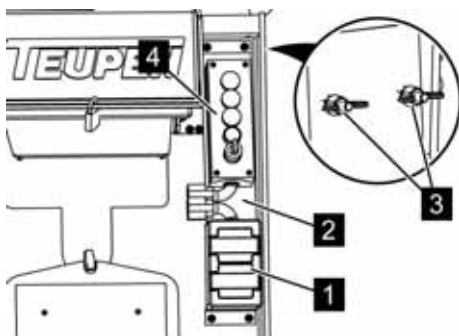

Fig. 82: Retaining plate
2. ➤ Unscrew the retaining plate (Fig. 82/2) with the toolbar (Fig. 82/4) and outlets (Fig. 82/1). To do this, loosen the wing nuts (Fig. 82/3) on the back side above and below.
3. ➤ Remove the retaining plate (Fig. 82/2) from the working basket.